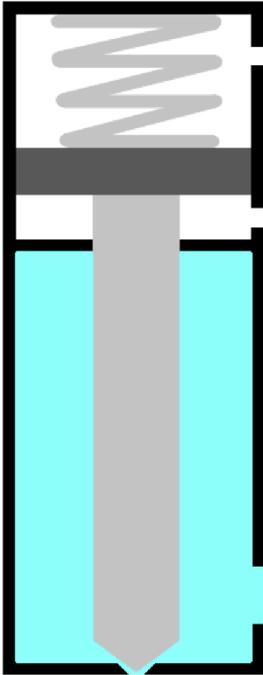
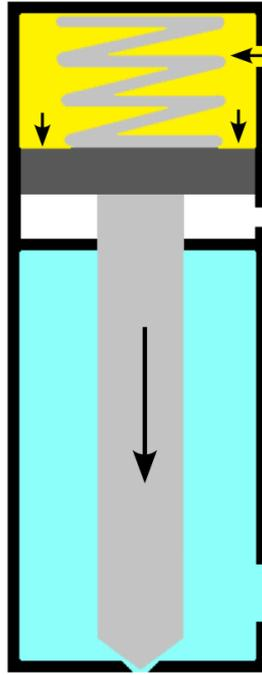
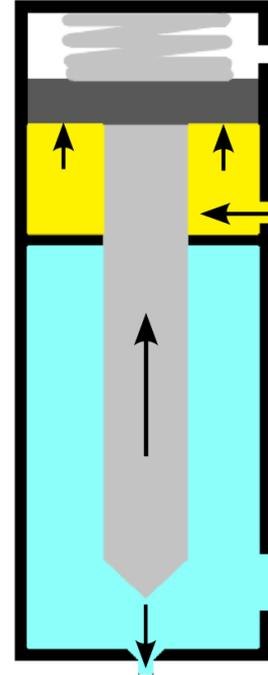

Figure 03 – Single effect resting phase
Figure 04 – Double Effect Resting Phase
Figure 05 – Single and Double Effect Dosing Phase
In the case of a simple effect, what keeps the valve closed is the spring, so the fluidic pressure must be below the pressure generated by the spring to keep the valve closed (Figure 03). The fluid is located inside the pneumatic chamber, which is closed by the needle that is pushed by the spring. When pneumatic pressure is exerted in the opening inlet, the piston rises and, consequently, also the needle, allowing the fluid to pass to the nozzle (Figure 05).
In the case of double acting, the working mode is like that of single acting, except that, in addition to the spring to keep the valve closed, there is a pneumatic pressure from the closing inlet of the valve (Figure 04). This is used if you have to work with fluidic pressures higher than that exerted by the spring.
- The fluid is under pressure in the fluidic chamber; in the case of a single effect, with only the spring pushing to close the fluid outlet (Figure 03), in the case of a double effect, with also the pneumatic pressure (Figure 04);
- The needle lifts, allowing the fluid to exit (Figure 05);